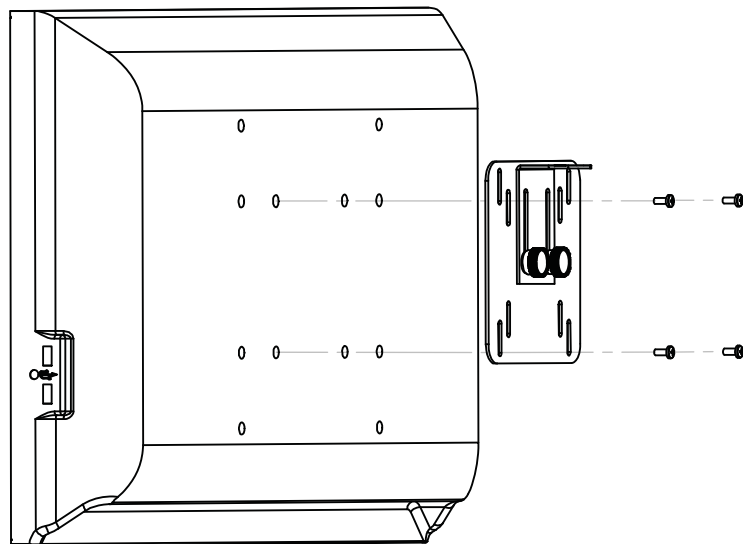

Figure 2: Attaching the VESA plate to monitor
4. Align VESA plate to mounting pattern, and, using the provided mounting screws, proceed to attach the VESA plate to monitor. Make sure that the attached VESA bracket angle is facing away from the monitor, and is oriented to achieve the desired position of the fixture. (fig. 2)